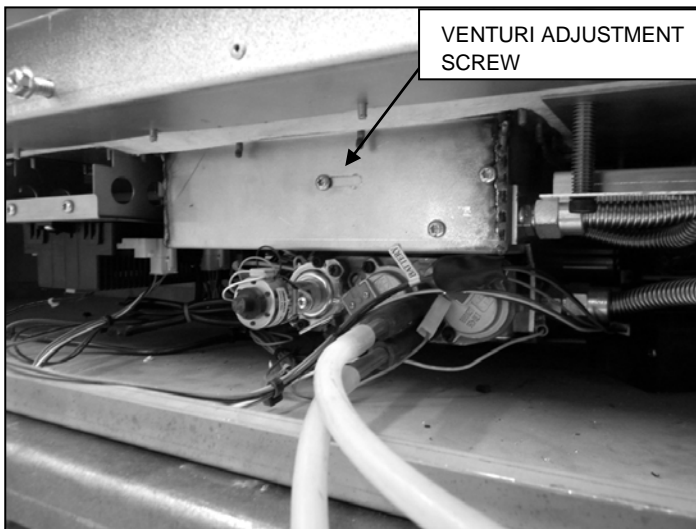

Figure 32: Valve
1. Remove window surround and locate the valve as seen in Figure 32.